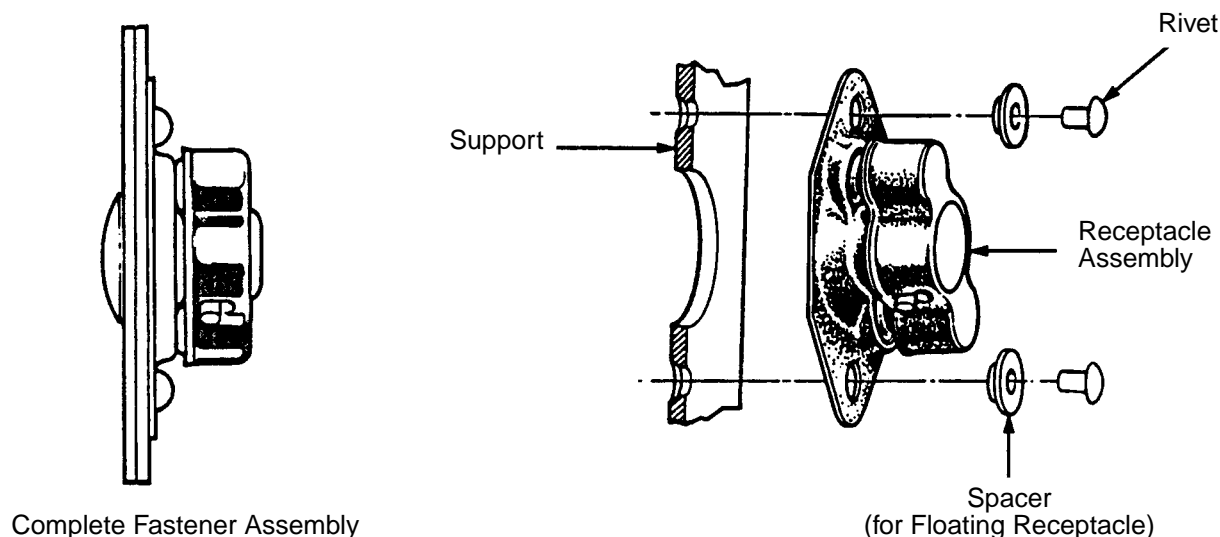

Figure 8 - Installation of Receptacle
5.3.3 Install receptacles as follows (see Figure 8):